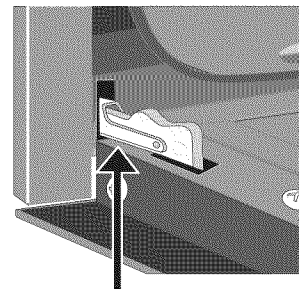
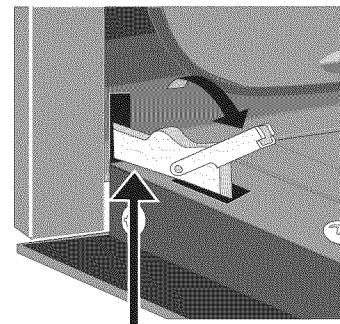

Figure 33: Door hinge locks
Figure 34: Hinge: unlocked position
2. Pull up the lock located on each hinge support toward front of the oven. You may have to apply a little upward pressure on the lock to pull it up (Figure 33 and Figure 34).
4. Push the door hinge locks up toward and into the oven frame on both left and right oven door hinges to the locked position (Figure 33).